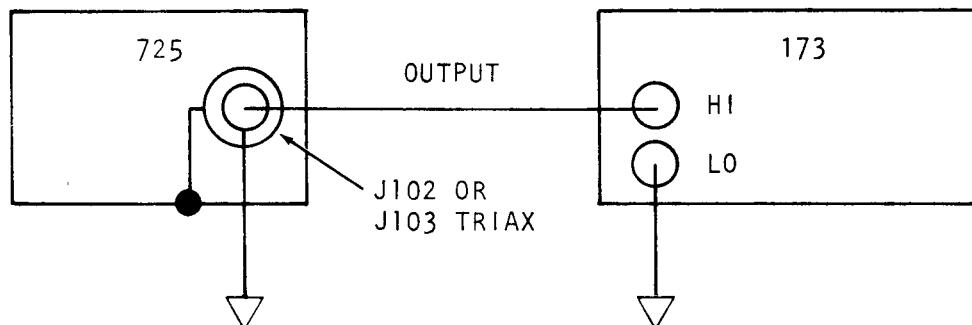

FIGURE 6-2. Accuracy Check.
g. Accuracy.	<p>Verify the accuracy on each full-scale range.</p> <p>Set OUTPUT to STANDBY. Connect the Digital Multimeter (A) to OUTPUT receptacle as shown in Figure 6-2. Set COMPLIANCE to 90V.</p>